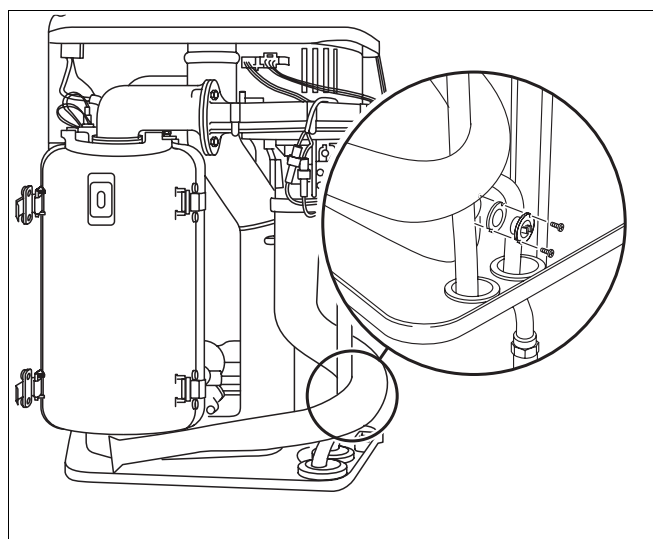

Fig. 50 600 Series 11S / 19S / 24S / 24C:
- Remove the exhaust-gas sensor and replace with a new unit (fig. 50).